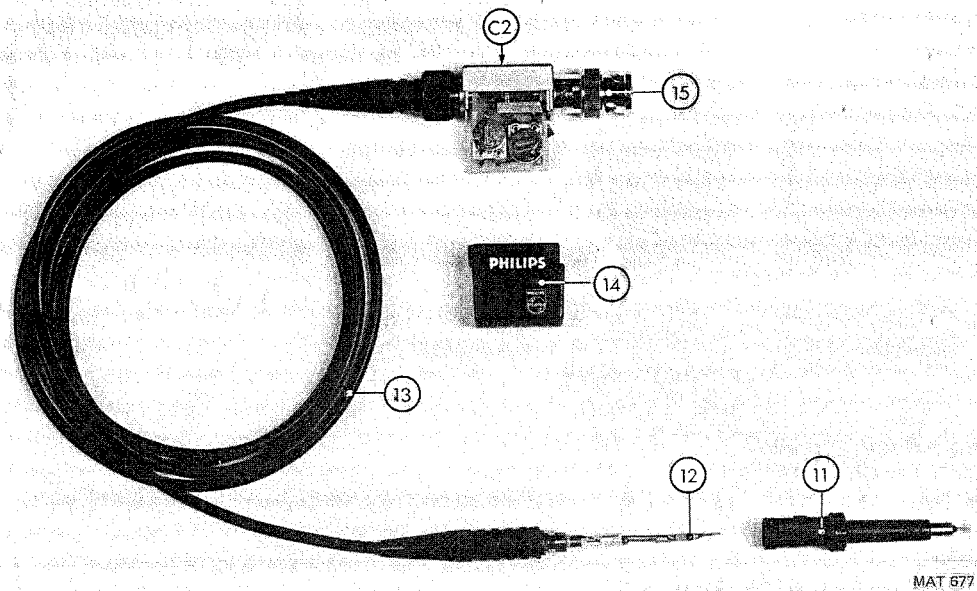

Fig. 1.10. Dismantling the probe
*Dismantling the probe (see Fig. 1.10.).*
*Dismantling the compensation box (see Fig. 1.10.).*
#### 1.4.5.1. Mechanical parts (see Fig. 1.10. and 1.11.).